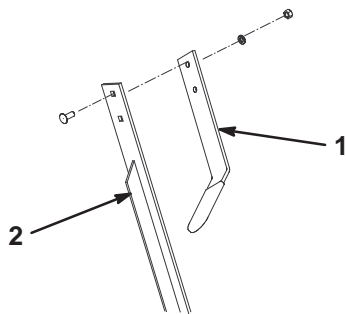

Figure 1
1. Remove (2) carriage bolts, washers and nuts securing control handle to control lever (Fig. 1).